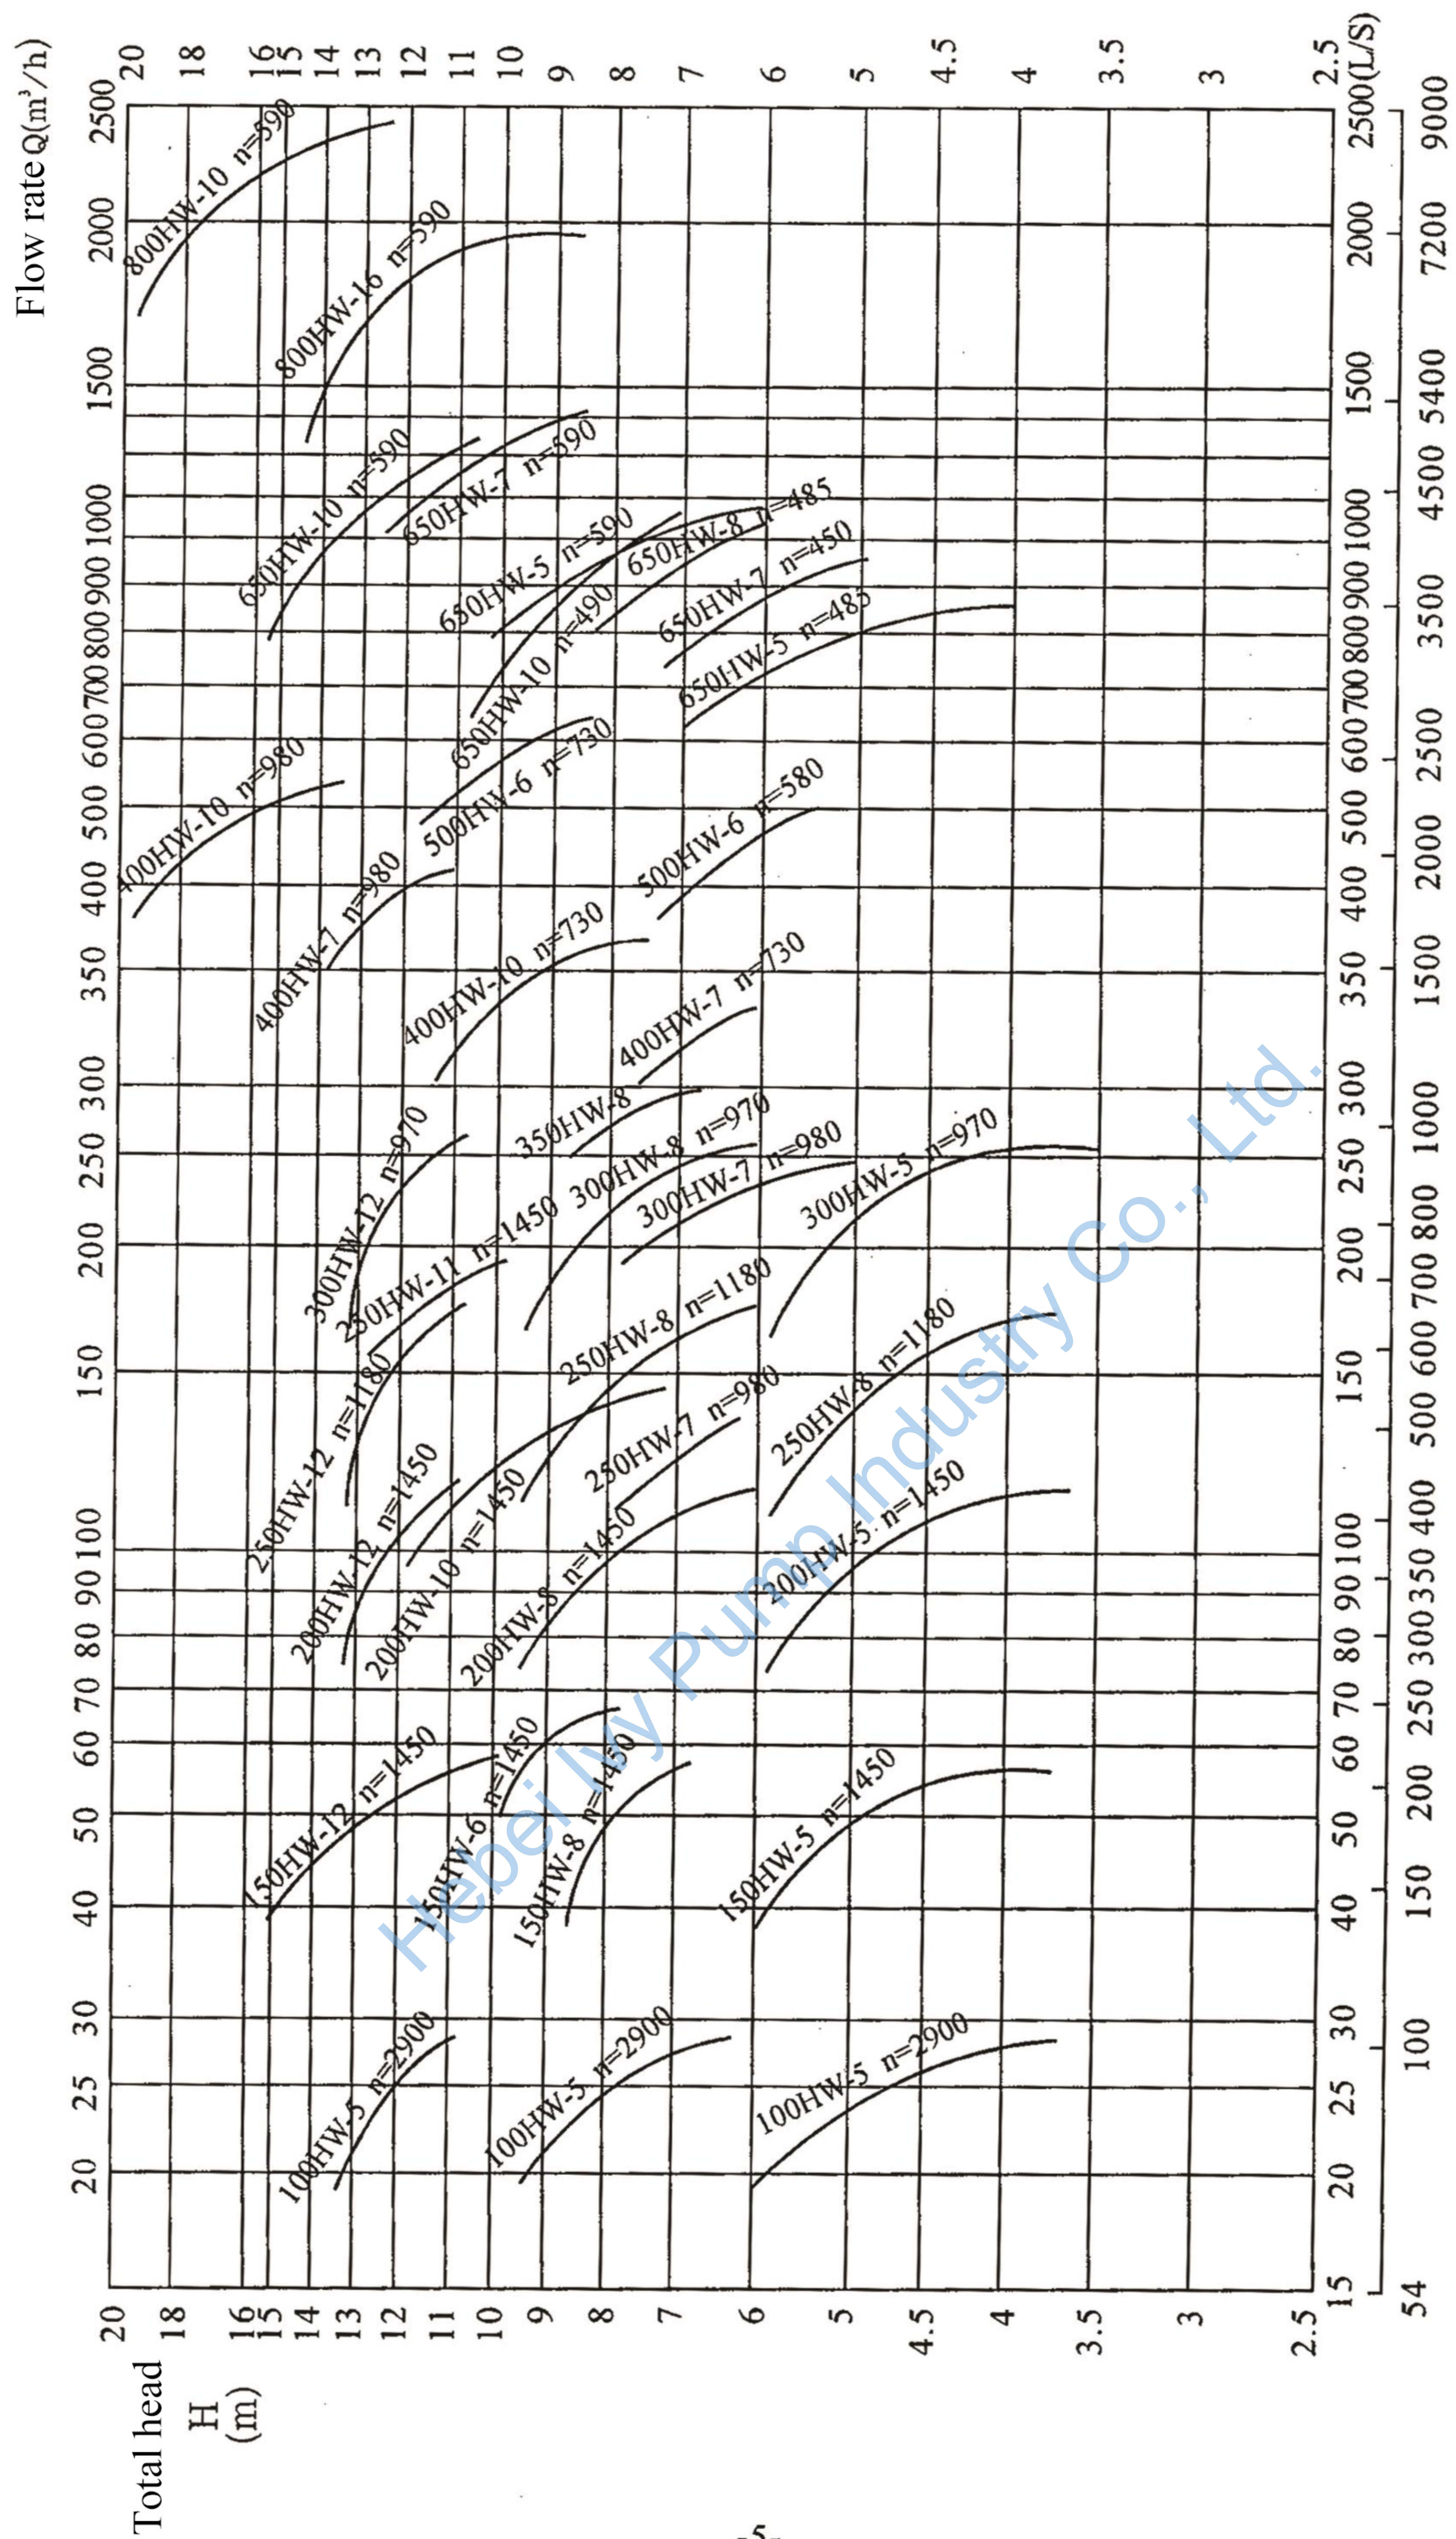

Figure 3: Flow-Head Curves for HW-Type Pumps (for User Selection)
1. Pump Performance: See the HW Series Pump Flow-Head Curves (Fig. 3) and Performance Tables (Tables 3 and 4)